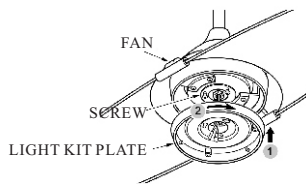

FIG.12
2. Gently pull the wire through light kit plate. Have the key hole over the loosened screws. Turn the light kit plate until it get the end of narrow end. Then, tighten the previously removed and loosened screws. (see Fig. 12 & 13)